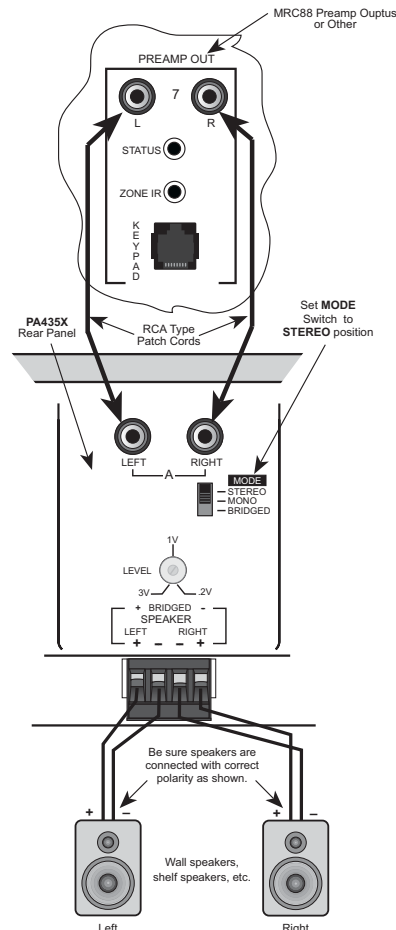

Figure 6 - PA435X Stereo Mode Connections
1. Using good quality RCA-type patch cables connect the L and R OUTPUT jacks of the MRC88 Pre Amp Output or other driving preamp to the LEFT and RIGHT input jacks on the PA435X. Do this for each amplifier pair. Refer to Fig. 6.
5. Be sure to observe correct polarity by connecting the "+" and "-" terminal from each channel on the PA435X to the corresponding "+" and "-" terminals on each speaker. This will ensure correct "phasing" - see Fig. 6 and Speaker Phasing below. Since the connectors are removable, you may unplug them for ease of lead assembly.
1. You may connect the RCA-type patch cables from the OUTPUT jacks of the driving preamp or other source to either the LEFT or the RIGHT input jacks of the bridged pair, as shown in Fig. 6. Do this for just the amplifier pairs you wish to run in the bridged mode.
3. Connect one speaker wire pair between the 4-terminal "SPEAKER" connectors on the PA435X and the speakers as shown in Fig. 6. Be sure to use only the two outer terminals marked "+" and "-" on the 4-terminal connector as shown on the panel for BRIDGED connections.
No sound from CH2, CH4 when stereo operation is desired.	BRIDGED/STEREO switch is incorrectly set to BRIDGED position. Set to STEREO position. See Fig. 6.